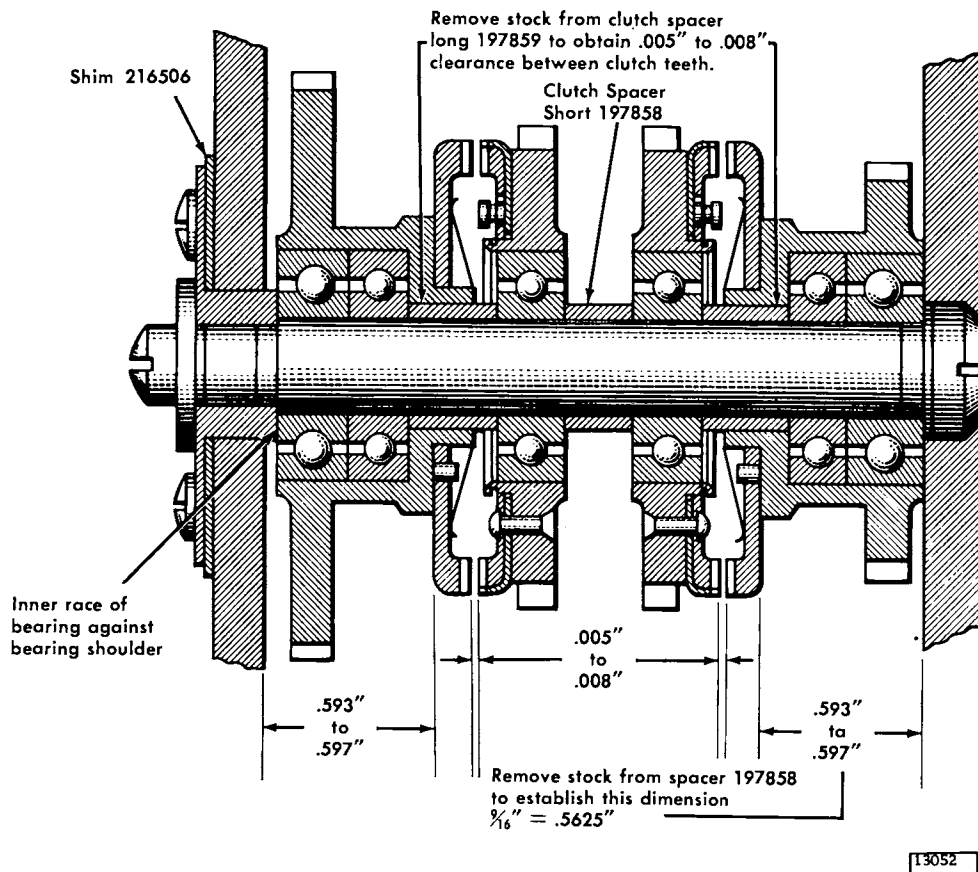

Figure 4-33. Carriage Drive Clutches
1. File the long clutch spacers, p/n 197859, to obtain 0.005" to 0.008" clearance between the clutch teeth of both the high- and low-speed clutches (Figure 4-33). Check at several points.
2. Add shims, p/n 216506, to obtain a 0.593" to 0.597" clearance between the left-side frame and the low-speed clutch (Figure 4-33).
3. File the short clutch spacer, p/n 197858, to obtain a 0.593" to 0.597" clearance between the right-side frame and the high-speed clutch (Figure 4-33).